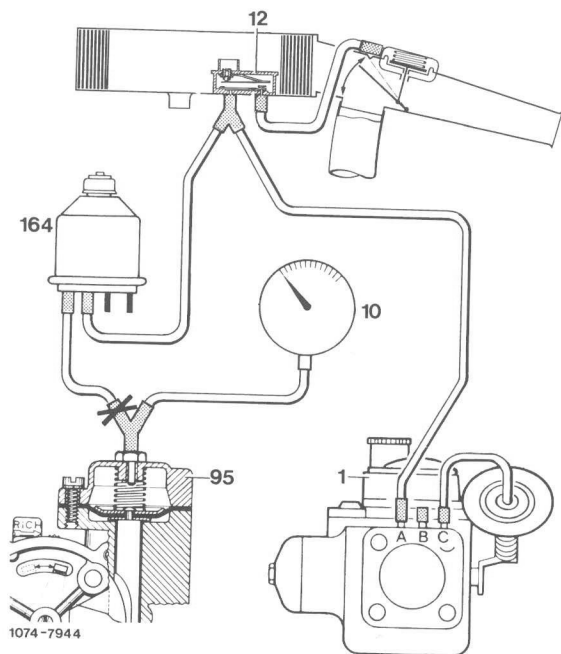

Fig. 37
2. Connect vacuum gauge with T - or Y-fitting to automatic choke housing (Fig. 37).
1. Connect vacuum gauge with T-or Y-fitting to automatic choke housing (fig. 37).
2. Run engine and read vacuum gauge. Pinch vacuum line at point marked (\*) in fig. 37 with a terminal.